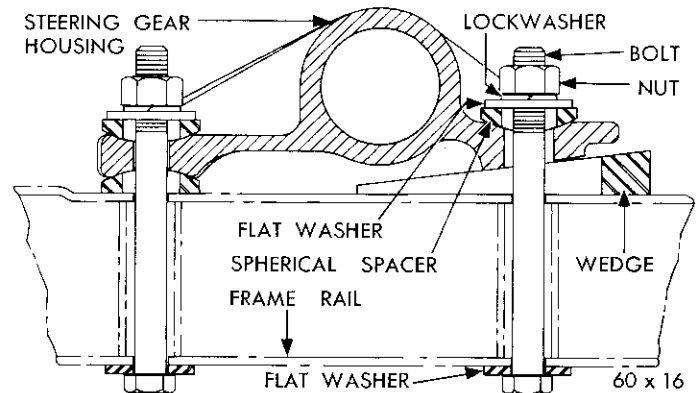

Fig. 46—Steering Gear Mounting
(11) Install the stationary plate, bushings, horn ring and attaching screws. Connect the horn wire at the stationary plate and install the steering wheel ornament.
(12) Tighten the jacket tube to the instrument panel clamp screws. Tighten screws to 50 inch-pounds torque.
(13) Tighten the front upper and the lower gear housing to the frame attaching bolts to 20 foot-pounds torque.
(14) Install a wedge over the rear bolt (Fig. 46) between the housing and the frame so that the tapered surfaces match, wedge lightly into place and tighten the three attaching bolts to 50 foot-pounds torque.
(15) Install the steering gear arm, washer and nut. Tighten to 120 foot-pounds torque.
(16) Install the steering center link, nut and cotter pin.
(17) Connect the pressure and the return hoses.
(18) Install the hydraulic brake line at the master cylinder and brake tee. Bleed the brakes as necessary.
(19) Refill the reservoir. Expel all the air from the system by turning the steering wheel several times to the right and left.